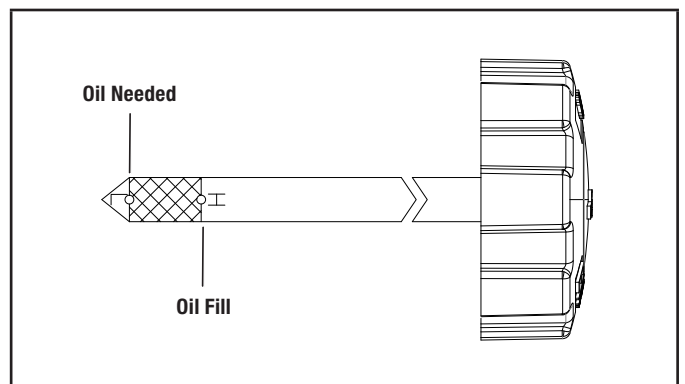

Figure 6B
- Insert the oil cap/dipstick into the oil filler neck but do not screw it in, then remove it to check the oil level (Fig. 6B).
- If the oil level is near or below the lower limit mark on the dipstick, remove the oil cap/dipstick, and fill with the recommended oil to the upper limit mark. Do not overfill (Fig. 6B).